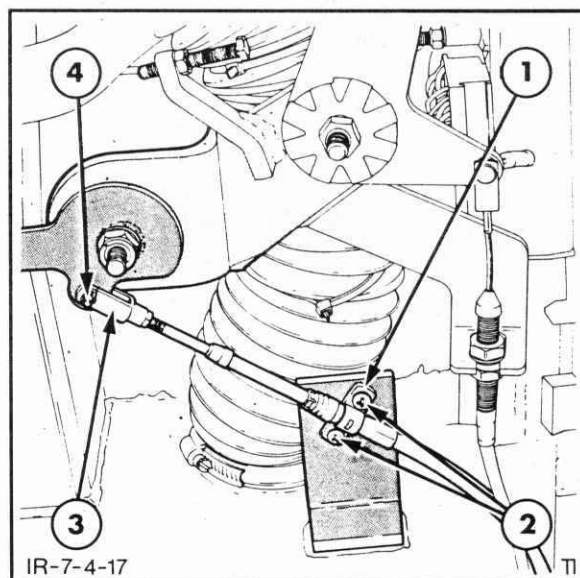

Figure 7-155
6. Disconnect the cable at the selector lever, Figure 7-155. Loosen the cable clamp retaining screws and pull the cable through the clamp.
1. Route the cable up into the cab and through the cable clamp. Secure the clamp retaining screws, Figure 7-155.
2. Connect the cable to the selector lever and retain with the clevis pin and split pin, Figure 7-155.